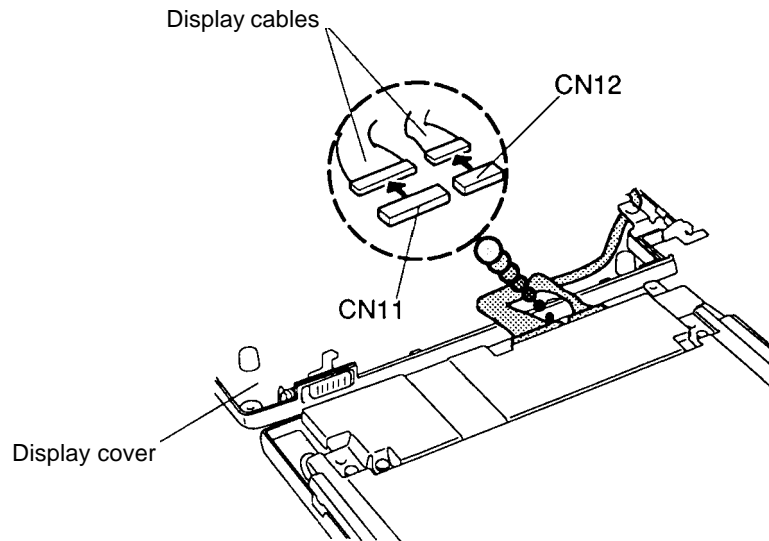

Figure 4-40 Disconnecting the Display Cables
5. Disconnect the **display cables** from **CN11** and **CN12** on the LCD module (Figure 4-40).
1. Connect the **two display cables** to **CN11** and **CN12** on the TFT color LCD module and rotate the module into place (Figure 4-40).